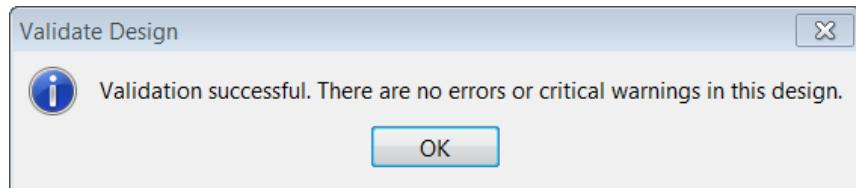

Figure 25: Validate Design Message
6. The Validate Design Successful dialog box opens (Figure 25).